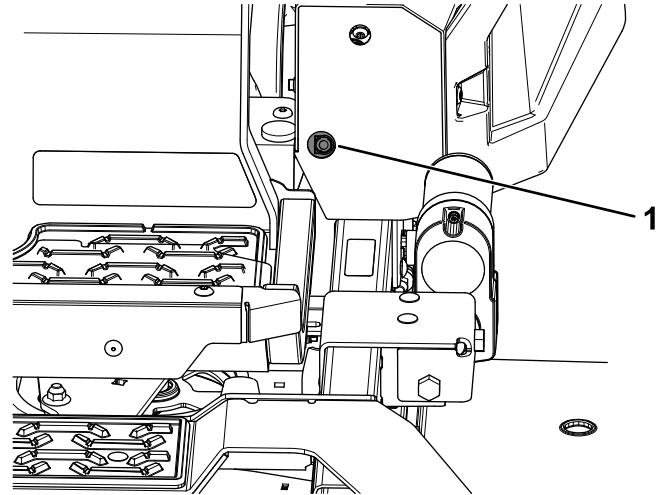
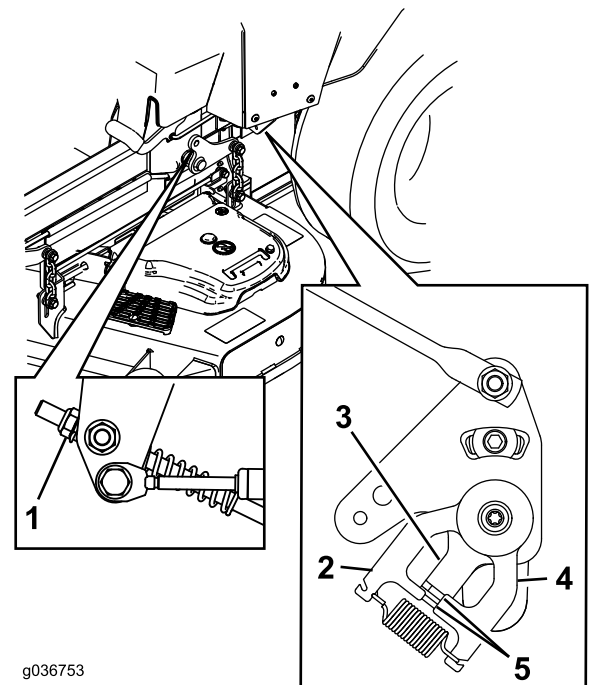

Figure 83
Figure 84
11. Adjust the pump-control-rod lengths by rotating the nut in the appropriate direction until the wheels slightly creep in reverse (Figure 83 and Figure 84).